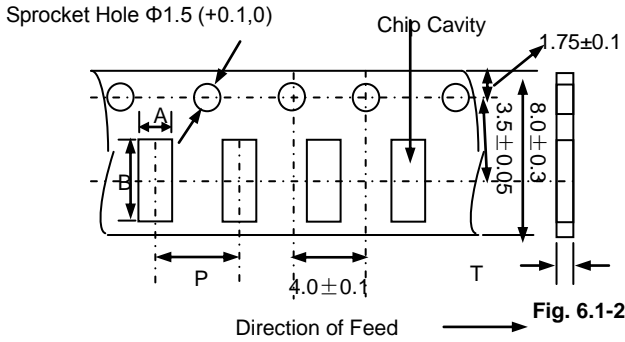

**Fig. 6.1-1**
- a. Tape carrier packaging are specified in attached figure **Fig.6.1-1~3**